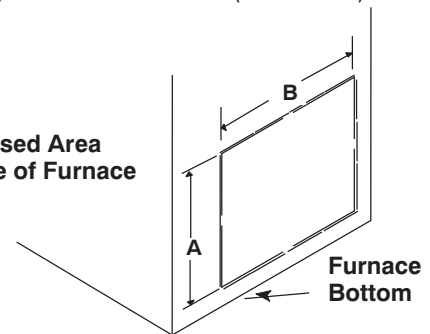

Fig. 42 - Side Return Air Cutout
1. For side connections using a 16" x 25" (406.4 x 635mm) filter, cut out the embossed area shown in Fig. 42. This will provide a 14¹/₂" x 22¹/₂" (368.3 x 571.5mm) approximate opening.